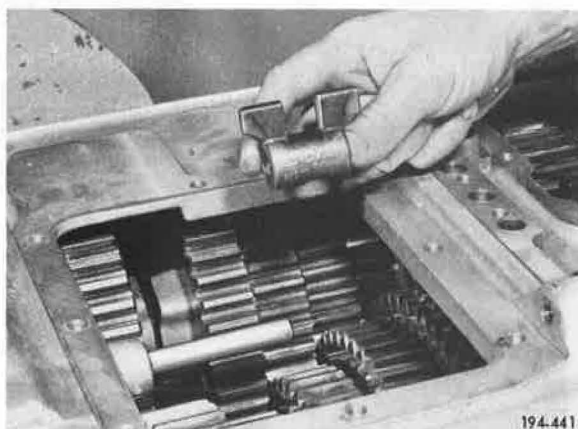

Figure 395. Installing Shifter
10. (Rearward Controls Only) Slide second/third speed shift rail through front of main box, and install second/third speed shifter onto rail. See Figure 395.